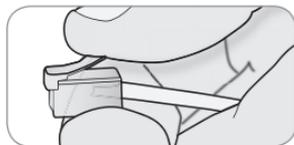

Fig. 15 - Plastic tab
- **ALWAYS** use the plastic tab to release plug (Fig. 15).